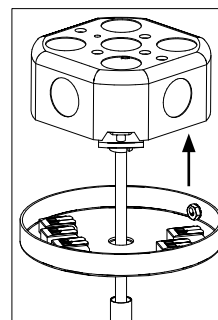

Figure 3: Base Mounting [2/2]
6. Reattached canopy cover by turning lock screw clockwise while pressing canopy cover firmly to base. [Figure 3 and 4]